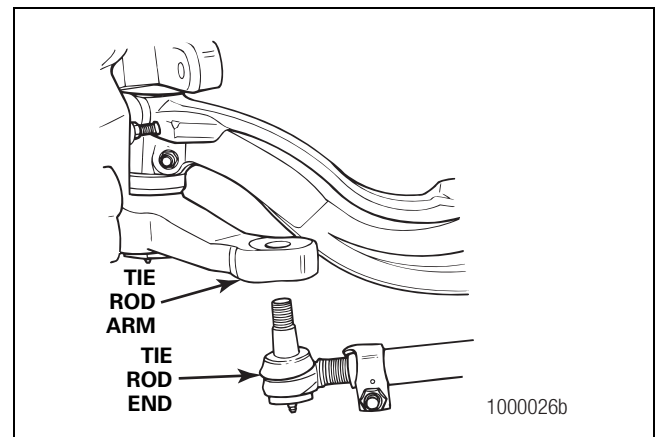

Figure 4.14
2. Disconnect the cross tube assembly from the tie rod arms. If available, use a tie rod end puller to separate the tie rod end from the tie rod arm. Figure 4.14. If necessary, use a leather or plastic mallet to tap on the tie rod end to loosen and remove it.